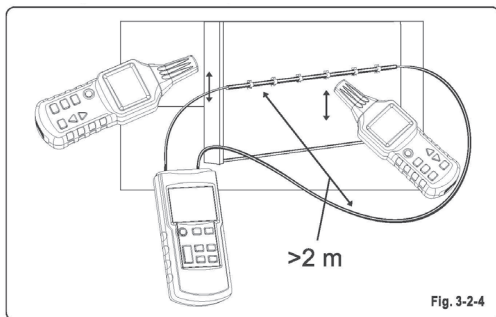

Fig. 3-2-4
- * Connect the emitter as shown in Fig. 3-2-4.